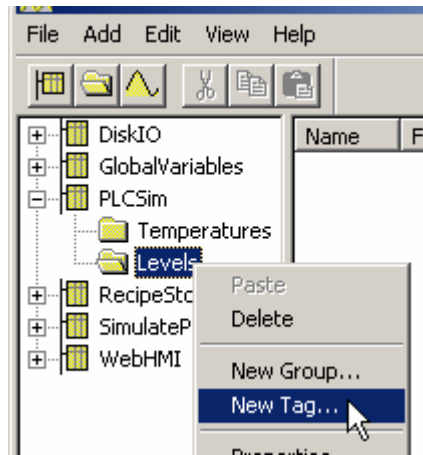

Fig. 4.7. Adding a New Tag to the "Levels" Group
1. Right-click the **Levels** group and select **New Tag** from the pop-up menu, as shown in **Figure 4.7**.